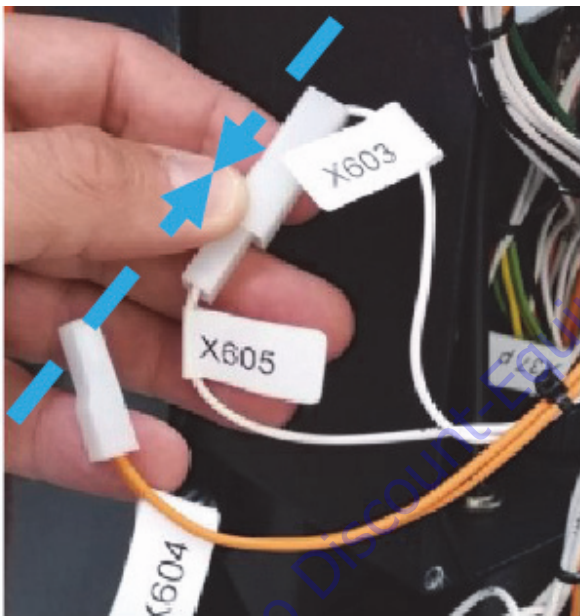

Figure 4-47.
12. Connect connector X603 to connector X605. See Figure 4-47.